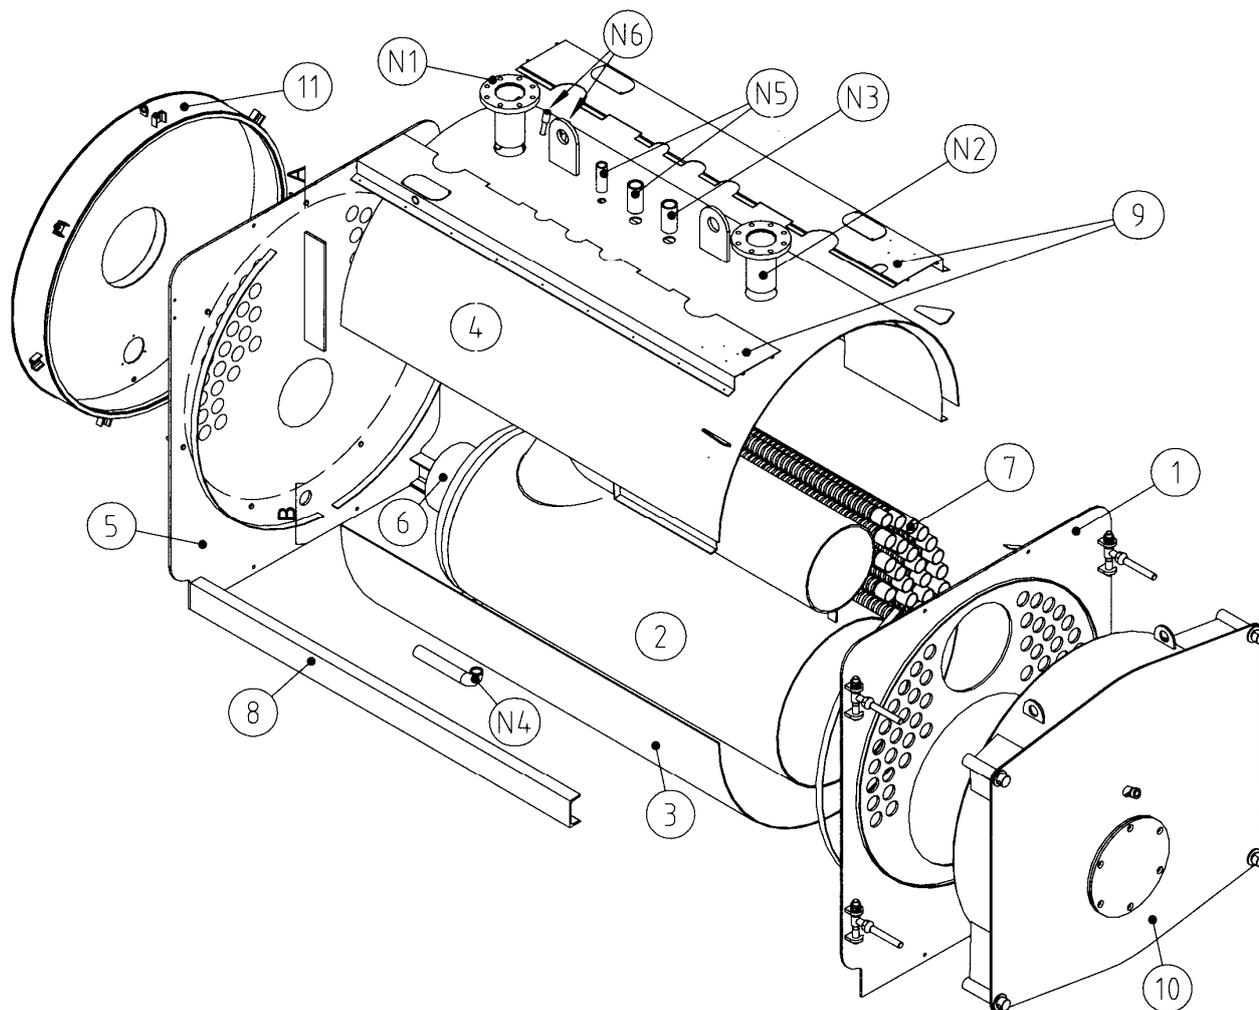

Fig. 7
4.2 MONTAGGIO CALDAIA GREENox.e K 80-300 (Fig. 7)